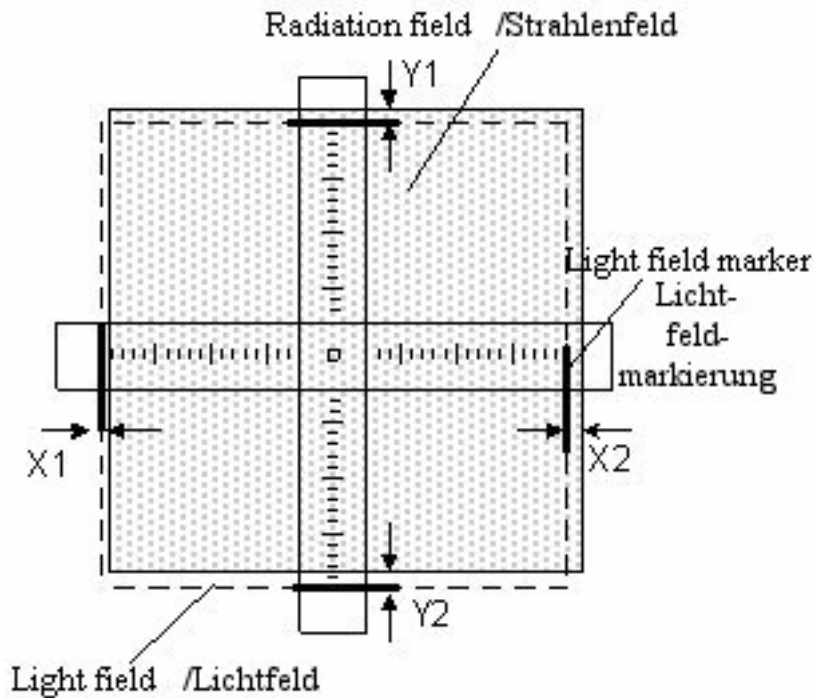

Fig. 4 Coincidence of light field/radiation field
- Mark the edges of the light field with radiation attenuating material, see Fig. 4.